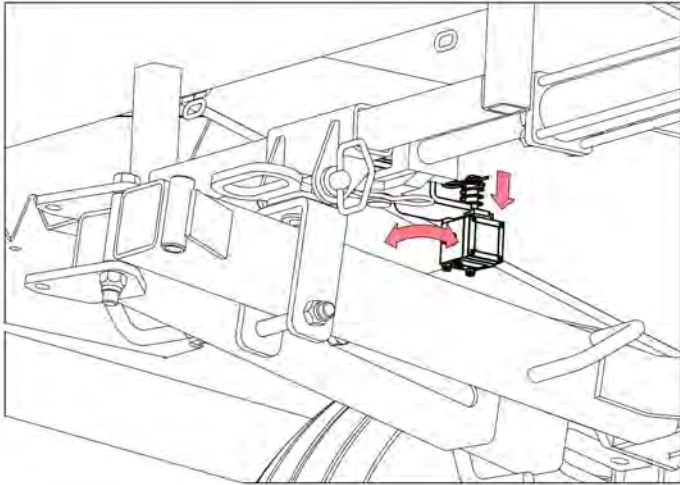

Fig.1
1. The mirrored face of the sensor must be pointing towards the row you want the wrapper to follow. The sensor can be repositioned as needed by pulling down on the sensor, then pivoting it in the correct position. See Fig.1.